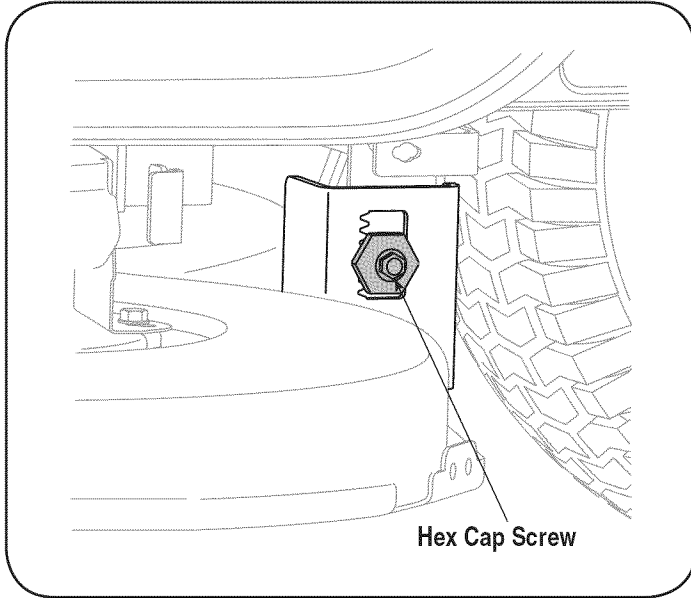

Figure 16
3. Loosen, but do NOT remove, the hex cap screw on the left deck hanger bracket. See Fig. 16.